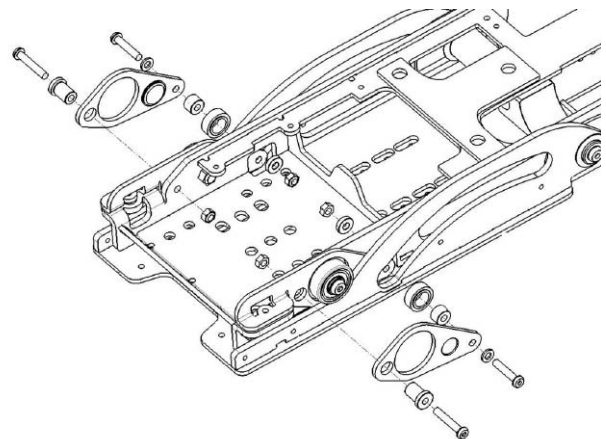

Fig. 7. Remove the sockets and wheels from the seat tilt.
8. Remove the sockets and wheels from the seat tilt, they are mounted with two screws on the left and right hand side of the seat tilt. See fig. 7.